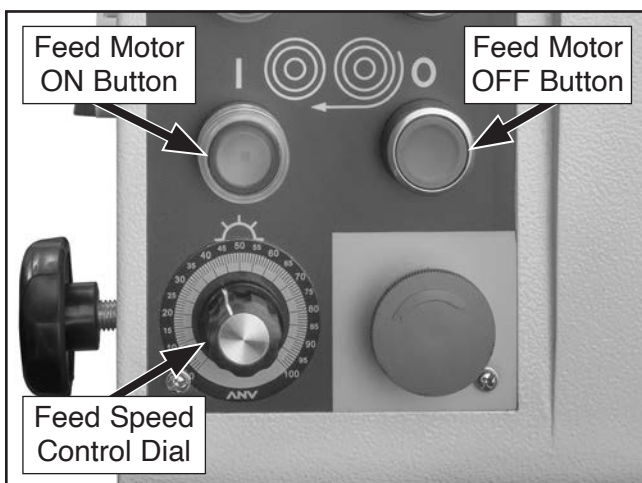

Figure 44. Location of feed motor ON and OFF buttons and feed speed control dial.
11. Press feed motor ON button (see **Figure 44**) to turn feed motor **ON**. Verify motor starts up and runs smoothly without any unusual vibrations or noises.
12. Slowly turn feed speed control dial (see **Figure 44**) back and forth to test variable feed speed function.
13. Press feed motor OFF button (see **Figure 44**) to turn cutterhead motor **OFF**. Ensure feed motor comes to a complete stop before proceeding to next steps.